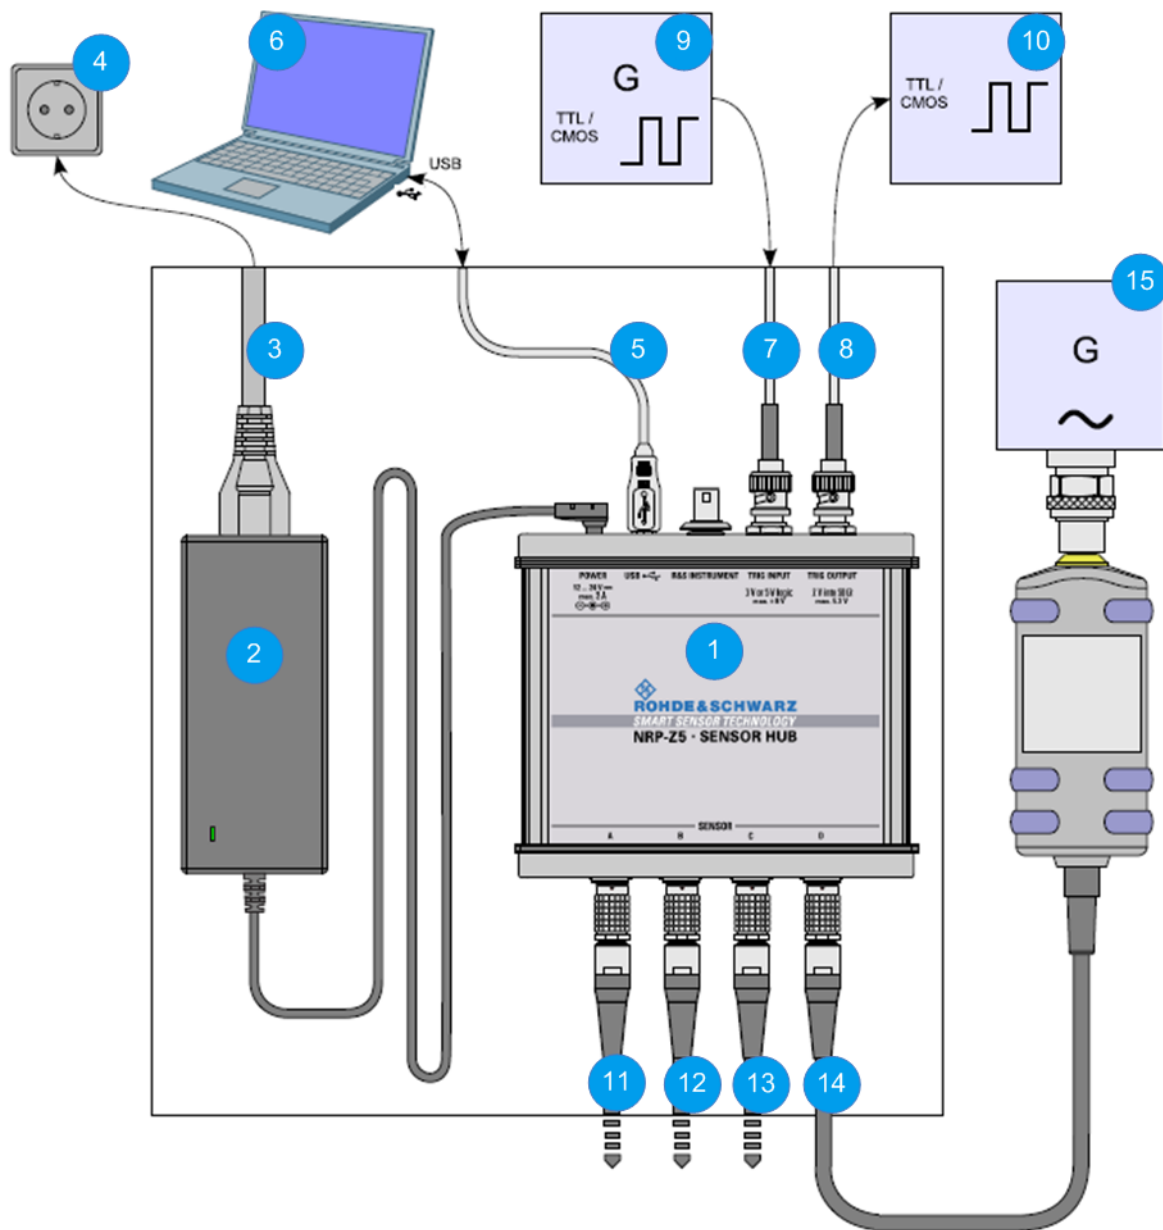

Fig. 4-4: Configuration with an R&S NRP-Z5 sensor hub
1. Connect the cables as shown in figure 4-4: